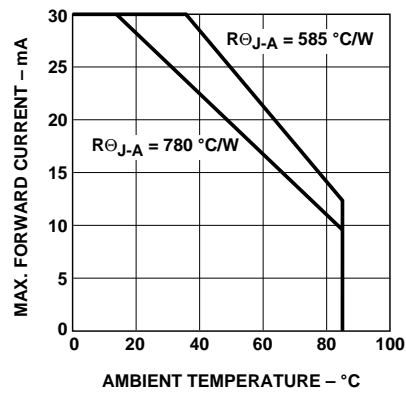

Figure 5. Maximum forward current vs. temperature.
1. Derate linearly as shown in Figure 5.